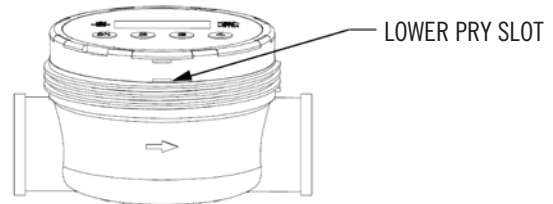

FIGURE 7
2. Unscrew meter cap (item 1). Use a strap type oil filter wrench or large 5" jaw pipe wrench if necessary.
3. Insert a flat-head screwdriver in the lower slot (see Figure 7) and turn to pry up meter cover (item 6).